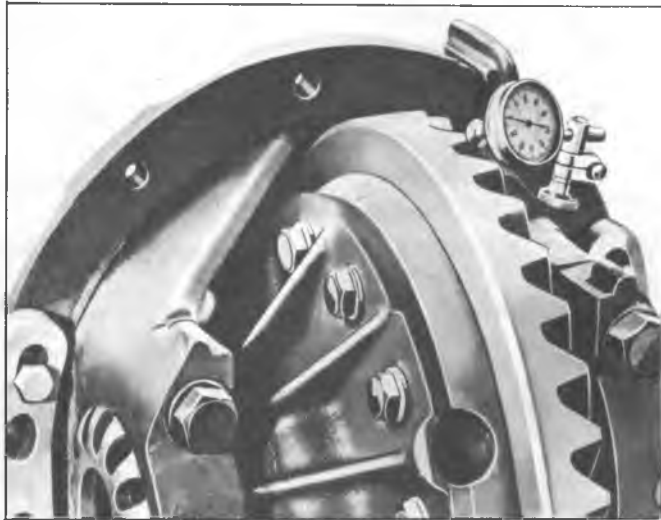

Fig. 14F--Checking Ring Gear and Pinion Backlash
6. Mount a dial indicator on the carrier and check the backlash between ring gear and pinion as shown in Figure 14F. Backlash should be from .003" to .012" (.005" to .008" preferred).